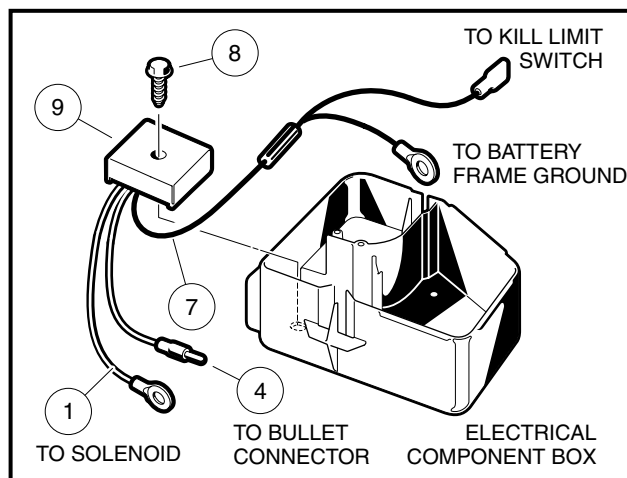

Figure 12a-16 Voltage Regulator
1. Position the voltage regulator (9) in the electrical component box and install the mounting screw (8) and tighten screw to 23 in-lb (2.6 N-m) (**Figure 12a-16, Page 12a-11**).
2. Connect the voltage regulator red wire (1) at the large post on the solenoid with the other red wires, the yellow wire (4) at the bullet connector and the black wire (7) to the wire harness and the battery frame ground (**Figure 12a-16, Page 12a-11**).